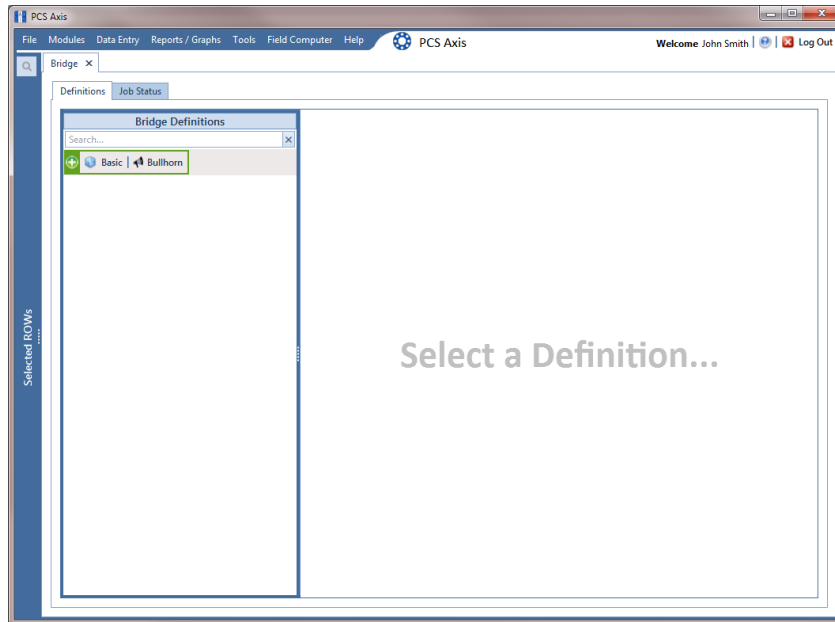

Figure 10-4. Bridge Definitions
- 2 Click **Tools** > **Bridge** to open the *Bridge* window (Figure 10-4).